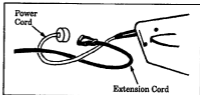

Figure 13
3. Secure extension cord to the power cord as shown in Figure 13 to prevent disconnection.
4. Insert the extension cord socket into the plug on the unit. Figure 13.